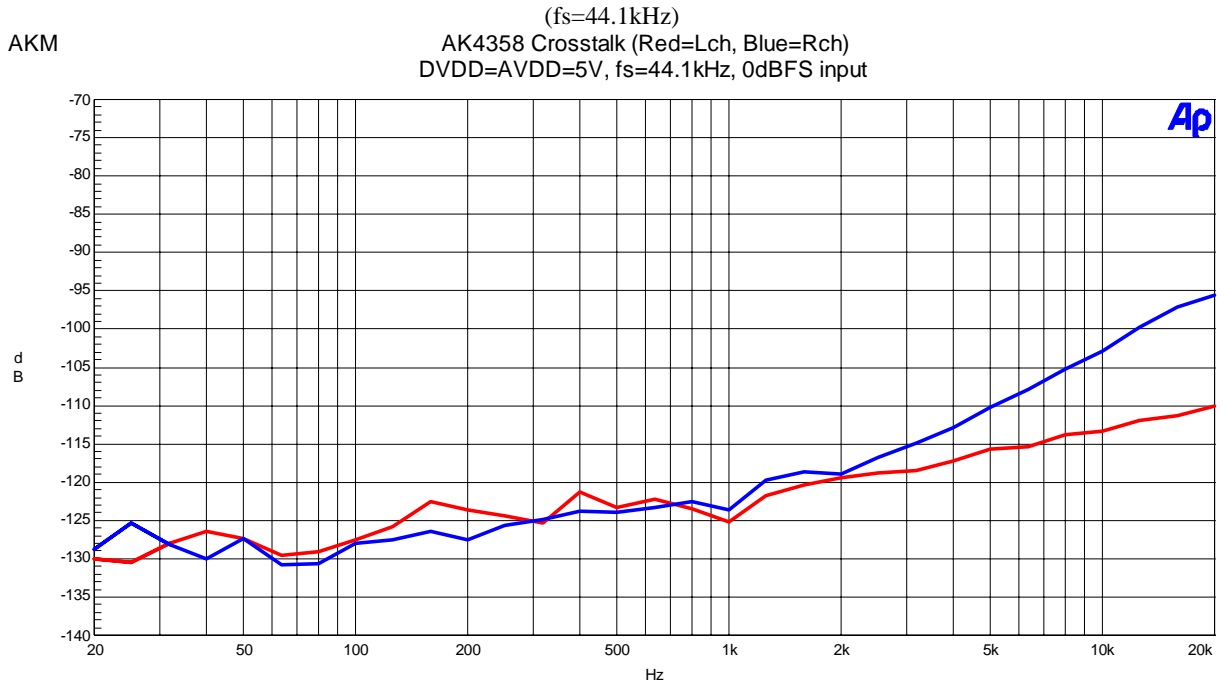

Figure 9. Cross-talk (0dBFS input)
- Figure 9. Cross-talk (0dBFS input)